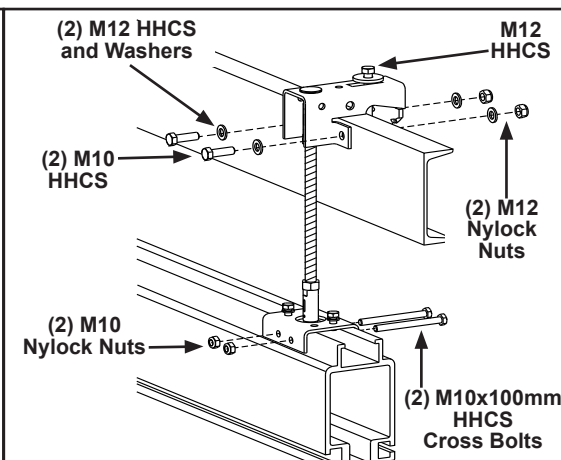

Figure 3-40
- Step 3. Place C-Channel bracket on top of structural steel. See Figure 3-40.
- Step 4. Clamp wedge to structural steel, tightening M12 nylock nut on M12 x 100 mm HHCS. ***Tighten until bolt is snug + 1/4 turn.*** Do not over tighten. Over tightening could cause bracket to bend. See Figure 3-40.